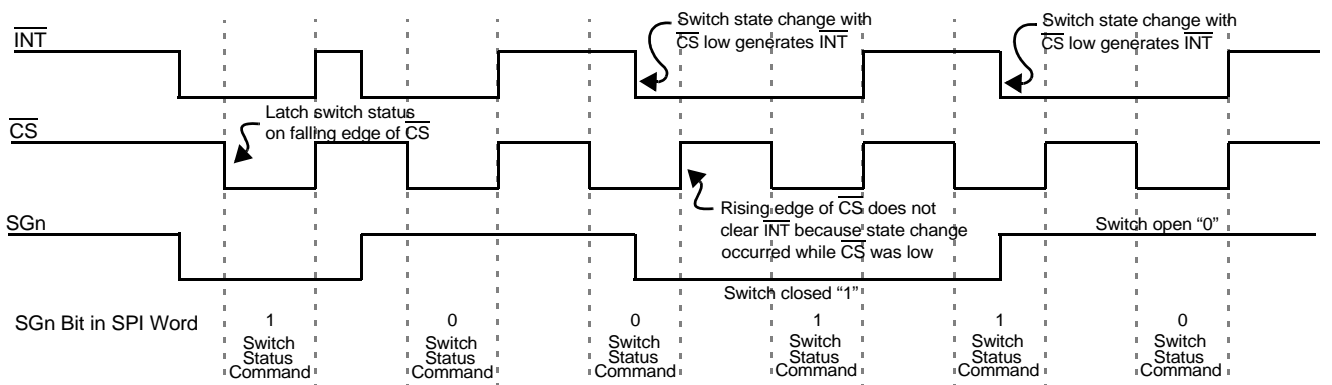

Figure 6. Normal Mode Interrupt Operation
2.  $\overline{INT}$  pin is reset to logic [1], except when additional switch changes occur during  $\overline{CS}$  low. (See Figure 6.)
Figure 6 is a graphical description of the device operation in Normal mode. Switch states are latched into the input register on the falling edge of  $\overline{\text{CS}}$ . The  $\overline{\text{INT}}$  to the MCU is cleared on the rising edge of  $\overline{\text{CS}}$ . However,  $\overline{\text{INT}}$  will not clear on rising edge of  $\overline{\text{CS}}$  if a switch has closed during SPI communication ( $\overline{\text{CS}}$  low). This prevents switch states from being missed by the MCU.